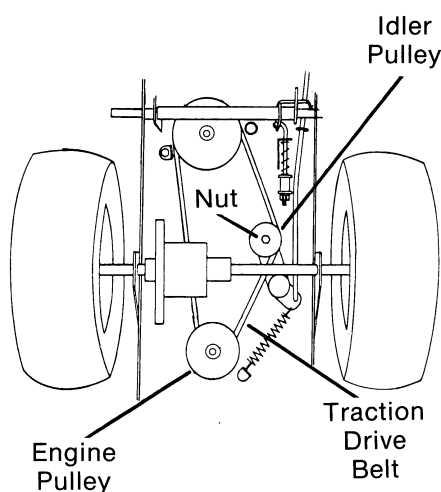

FIG. 7
- J. Remove nut securing traction drive idler pulley to idler bracket and remove pulley. (Fig. 7) Slip traction drive belt off engine pulley towards bottom of engine.